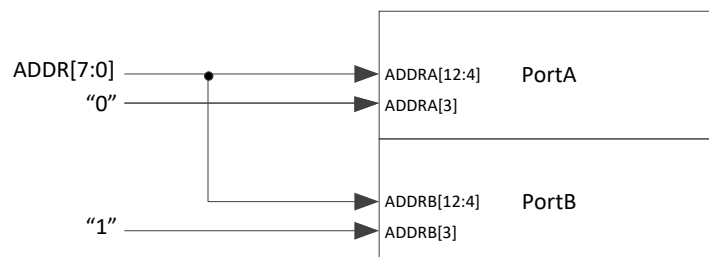

Figure 2-6 Address Line Configuration for TW and RBW Modes in SPRAM Mode
5. Both Port A and Port B address input ports must be connected to the address input simultaneously; ADDR[3] and ADDR[3] must be connected to 0 or 1 respectively (in opposite), as shown in Figure 2-6: